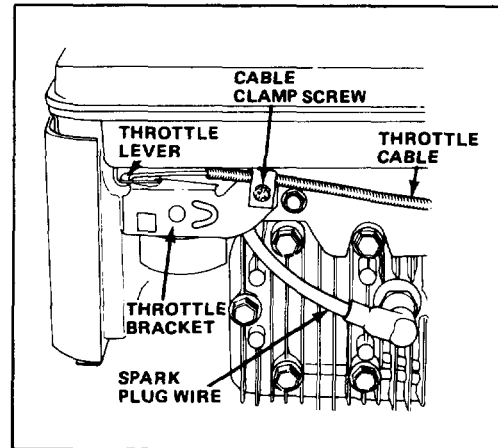
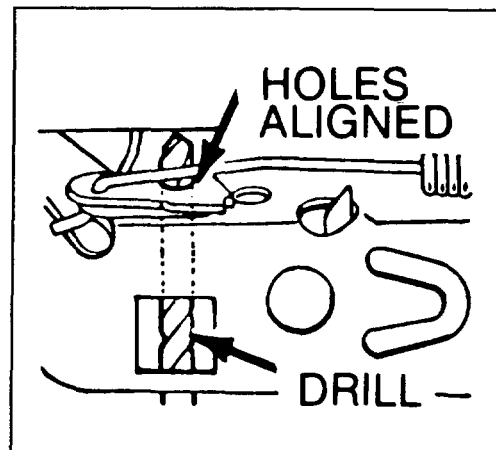

Figure 22
Figure 23
1. Stop engine and pull wire off spark plug (Fig. 22).
3. Loosen cable clamp screw until throttle cable slides (Fig. 22). Align holes in throttle lever and throttle bracket using a 1/8" drill bit (Fig. 23). Tighten cable clamp screw to lock adjustment in place.